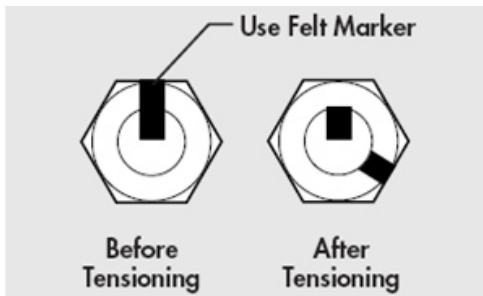
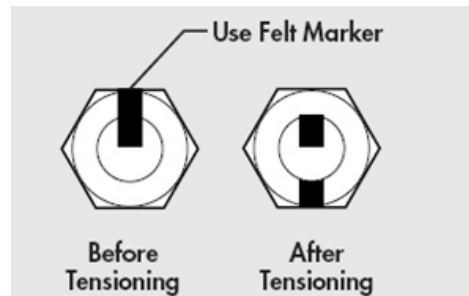

Figure 1-1: Bolts Shorter than 4 Diameters
Figure 1-2: Bolts Longer than 4 Diameters
5. Using a felt-tip marker, mark the nuts and ends of the bolts with a straight line as shown above in Figure 1-1 and Figure 1-2.
Moved 1/3 turn (120°) as shown in Figure 1-1 (“After Tensioning”)
Moved 1/2 turn (180°) as shown in Figure 1-2 ("After Tensioning")